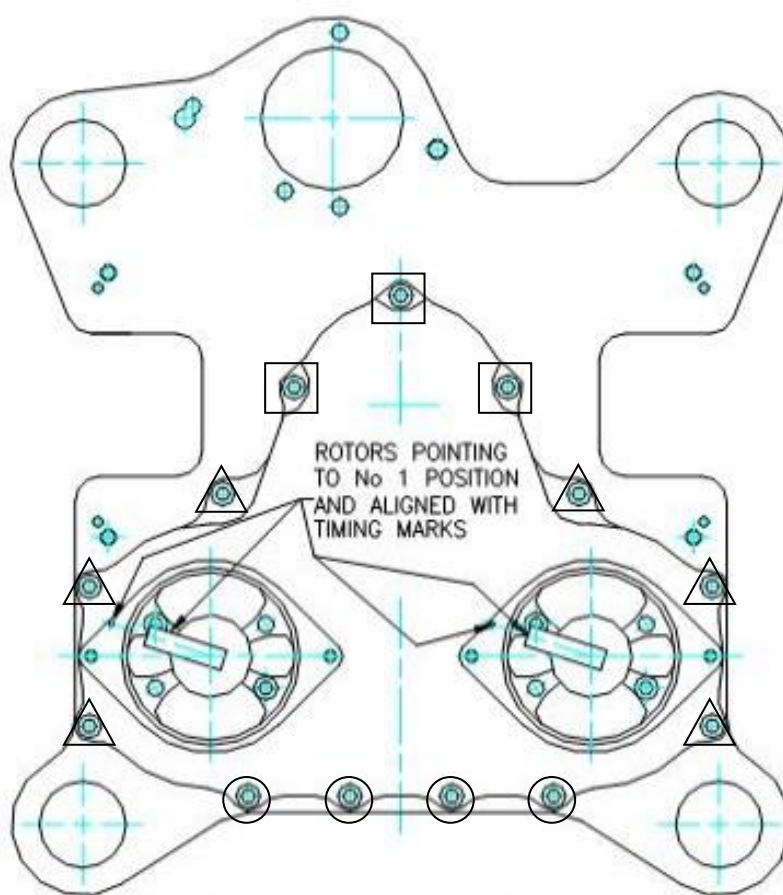

Figure 181 – Gearbox Installation
- Tighten the screws holding the gearbox to the engine. Note that different sized screws are used on the plate - Figure 181 refers.